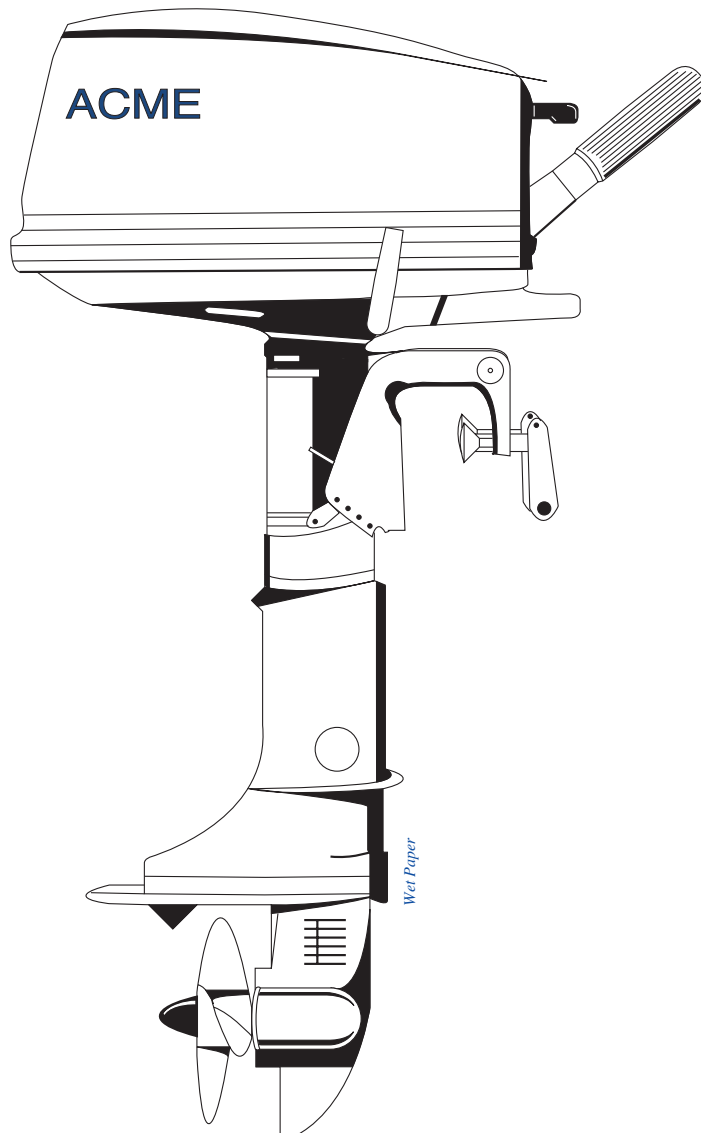

Figure 43.2 Figure for question 9
- Label the diagram in Figure 43.2 with these component parts: